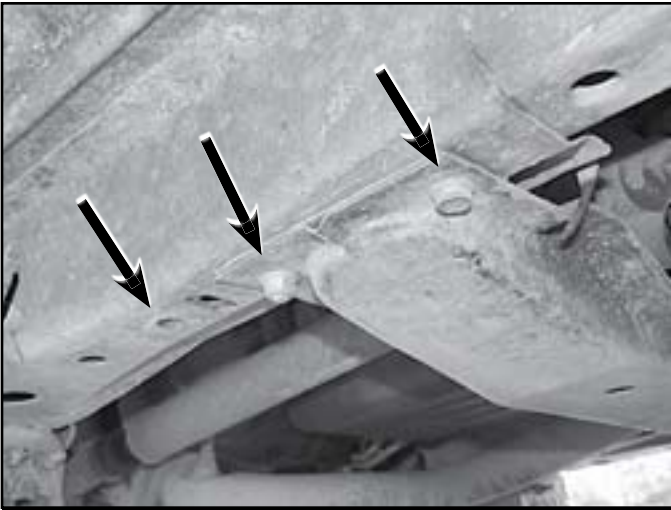

Fig. 4
11. Remove the nuts/bolts retaining the crossmember to the frame and remove the crossmember from the vehicle (Fig 4).
12. Some models may use a combination of threaded studs/nuts and bolts to fasten the OE crossmember (Fig 4). If this is the case, the threaded studs must be removed. The studs can be removed by either clamping vise grips on it, using the double nut method or tack welding a nut to the stud and using a wrench to remove it.
13. Locate the third threaded hole in the uni-body rails just ahead of the two that were used to mount the OE crossmember (Fig 4). Ensure that the threads are clean of dirt and rust. These holes will be used to mount the new crossmember in conjunction with the original two holes (per side).